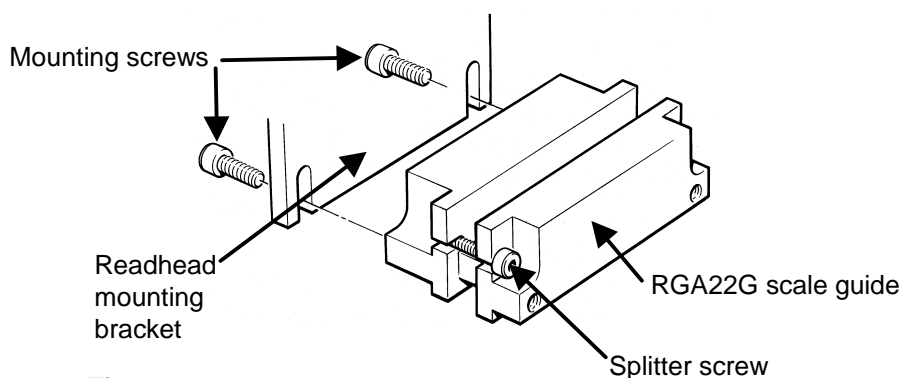

Figure 1
- Mount the scale guide to the readhead bracket as shown in figure 1
- Remove the splitter screw (see figure 1) from the scale guide body